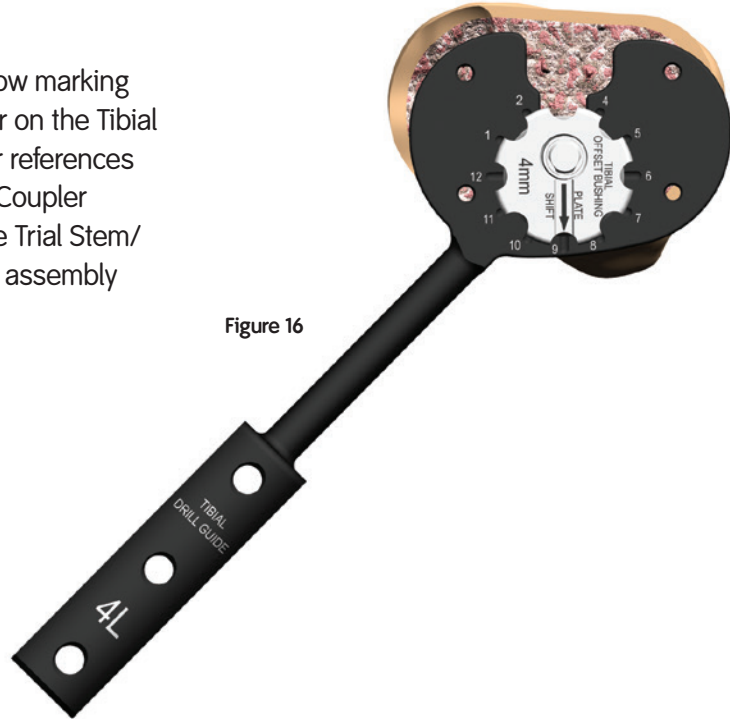

Figure 16
4. Rotate the Tibial Offset Bushing about the tibia until proper tibial coverage is achieved (Figures 16 and 17).